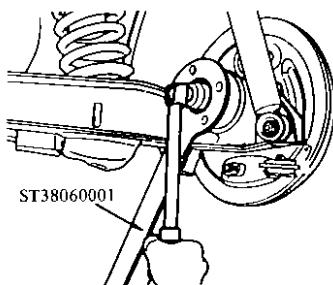

Fig. H.9 Removing the rear wheel bearing nut.
5. Remove the wheel bearing locknut (Fig.H.9.), the rear axle shaft, wheel bearings and oil seal. Remove the rear brake assembly from the suspension arm (See section BRAKES).